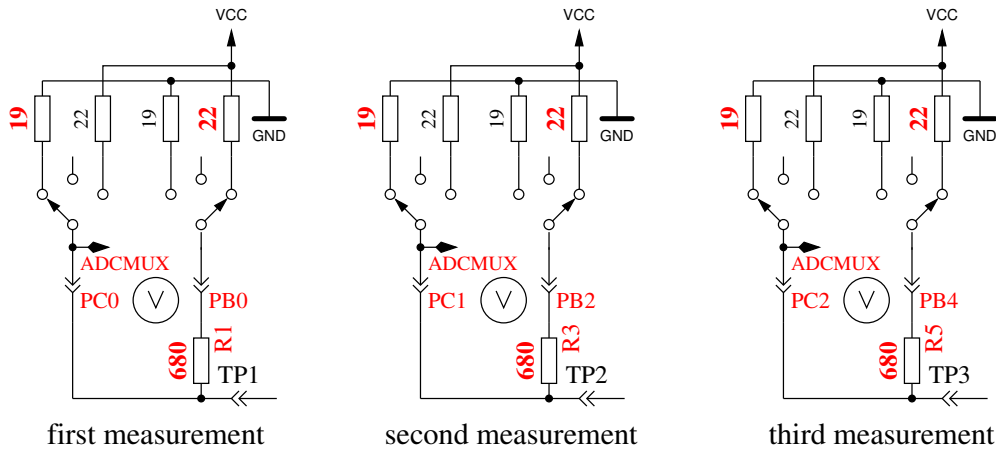

Figure 5.66. Measurement of internal resistance of Port C switched to GND
5. **This step tests the capability of GND (-) connected 470kΩ resistors (H) to pull the test pins to GND.** Row 1 shows the text “RH-”. Row 2 should display zero for all three pins.
6. **This step tests the capability of VCC (+) connected 470kΩ resistors (H) to pull the test pins to VCC (+).** Row 1 shows the text “RH+”. The results are shown als difference to VCC and should be near zero. Great differences from the best value for test 5 and 6 are errors such as isolation problem, flux material or damaged port.
8. **Measuring of internal resistance of pin output switched to the GND signal.** This test and the follwing tests will only be done, if the option AUTO\_CAL is selected. The internal resistance of the port C outputs switched to GND (-) are measured with the current of to VCC (+) switched 680Ω resistors, see Figure 5.66. Only the three pins of the ADC port are measured, the resistor port B (PB0,PB2 and PB4) can not be measured without hardware modification. Is is assumed that the port resistance of the different ports are nearly identical. The resistor value will be shown in the next test.